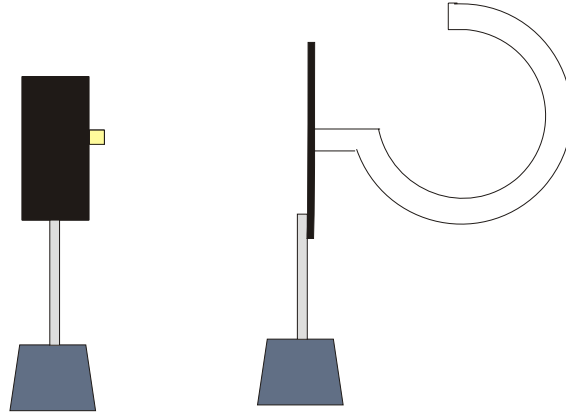

Fig. 1 Experiment set-up with diode laser (U16040)
- Set up the experiment as in fig 1.